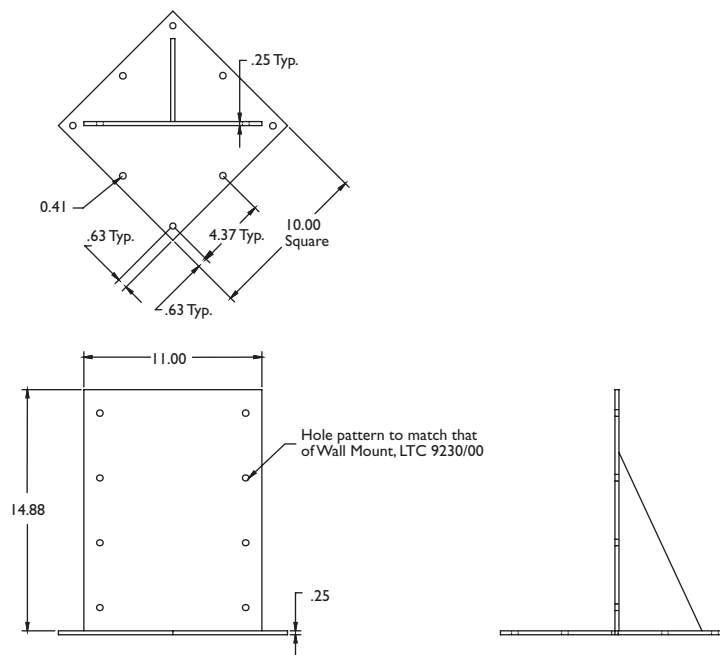

Figure 4. Dimensions LTC 9230/01 Roof Mount
2. Using the Roof Mount as a template, position it in the desired location and mark the hole locations on the roof surface (see Figure 4). Use a minimum of six (6) fasteners (one at each corner and two more).
Dimensions: See Figure 4.